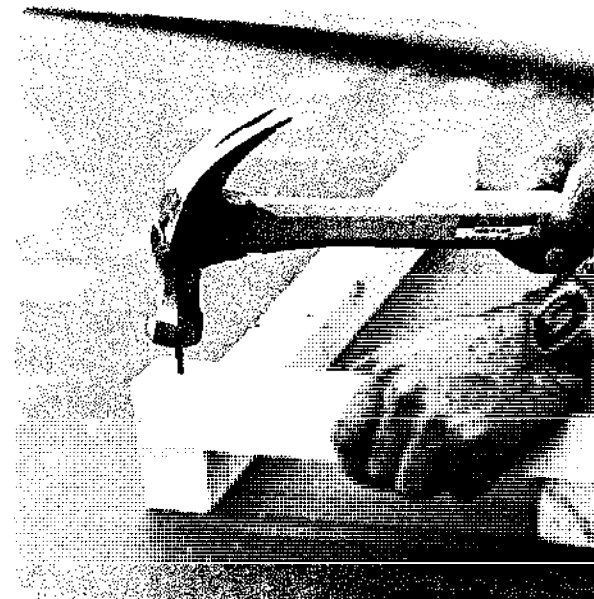

Fig. 11-26 Driving a nail.
6. To drive the nail home, figure 11-26, swing the hammer by bending the elbow and giving a well-directed blow that hits the nail squarely on the head. If the handle is kept at an angle of 90 degrees to the line of the nail, the face of the hammer generally hits the nail squarely. Try to strike the nail with the center of the hammer head.